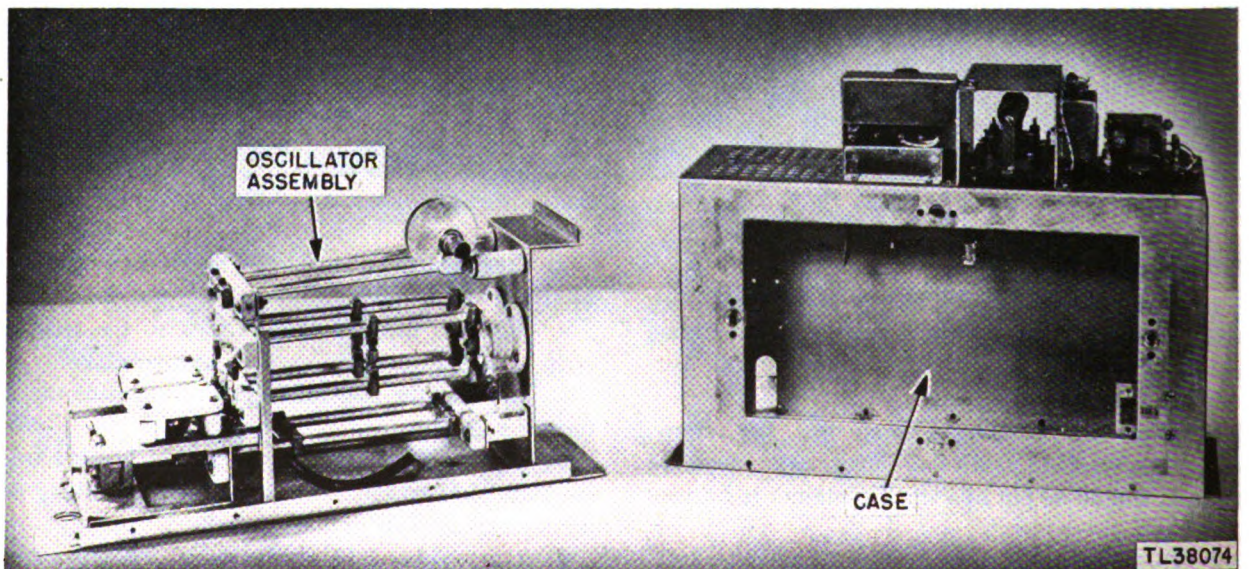

Figure 252. Oscillator compartment assembly and case.
w. Lift the case from the oscillator section (see fig. 252).